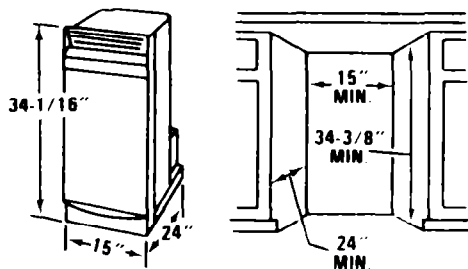

FIGURE 3
3. The compactor's overall dimensions are: Height 34-1/16" (min.), Depth 24", Width 15". Select a cabinet opening to fit. See Figure 3.